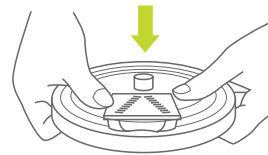

Fig. 27
3. place the slicing or grating plates into the plate holding disc the plates should be placed into he disc as show and clicked into place (will only fit one way) (Fig. 27)